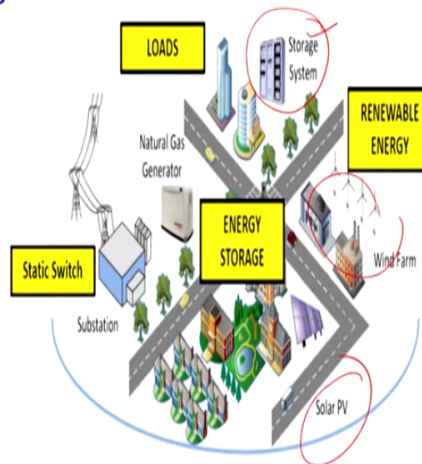

Fig.1: Structures of Microgrid
- The basic architecture of Microgrid system is shown in Fig. 1.